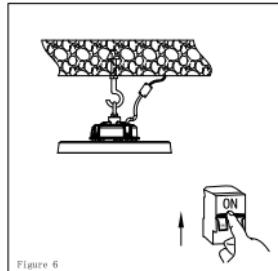

Figure 6
6. Open the power to make sure if the product can be lighten. (see fig.6)